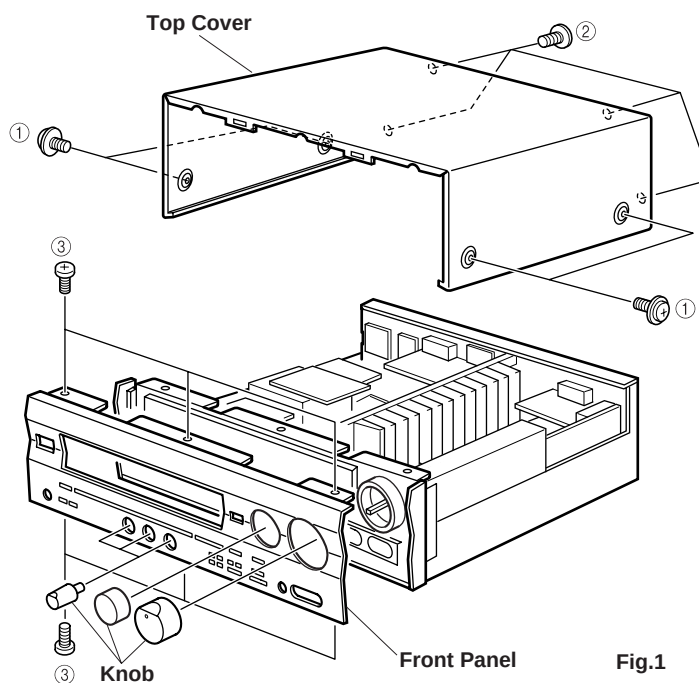

Fig.1
Remove 4 screws (①) and 4 screws (②) in Fig. 1.
- b. Remove 6 screws (③) in Fig. 1.